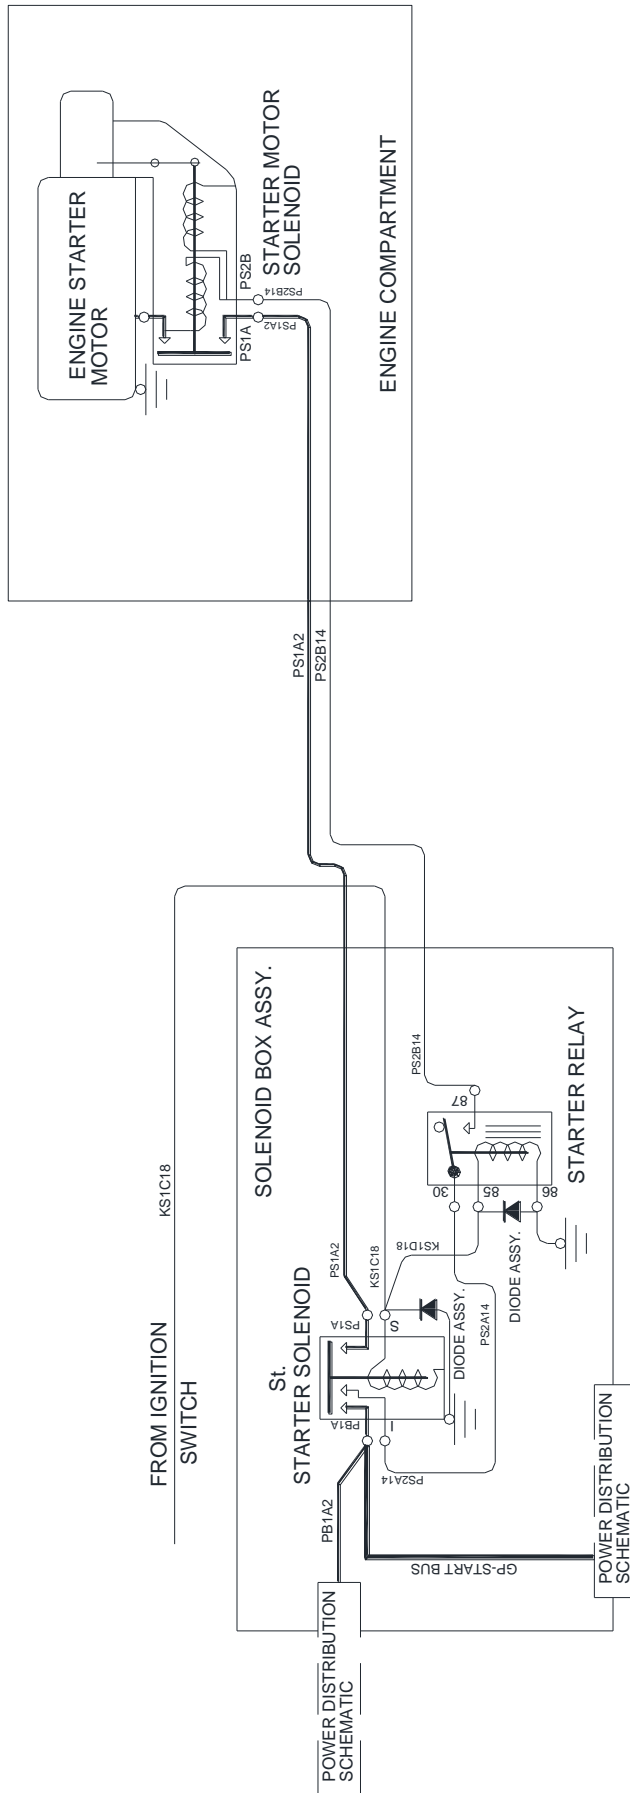
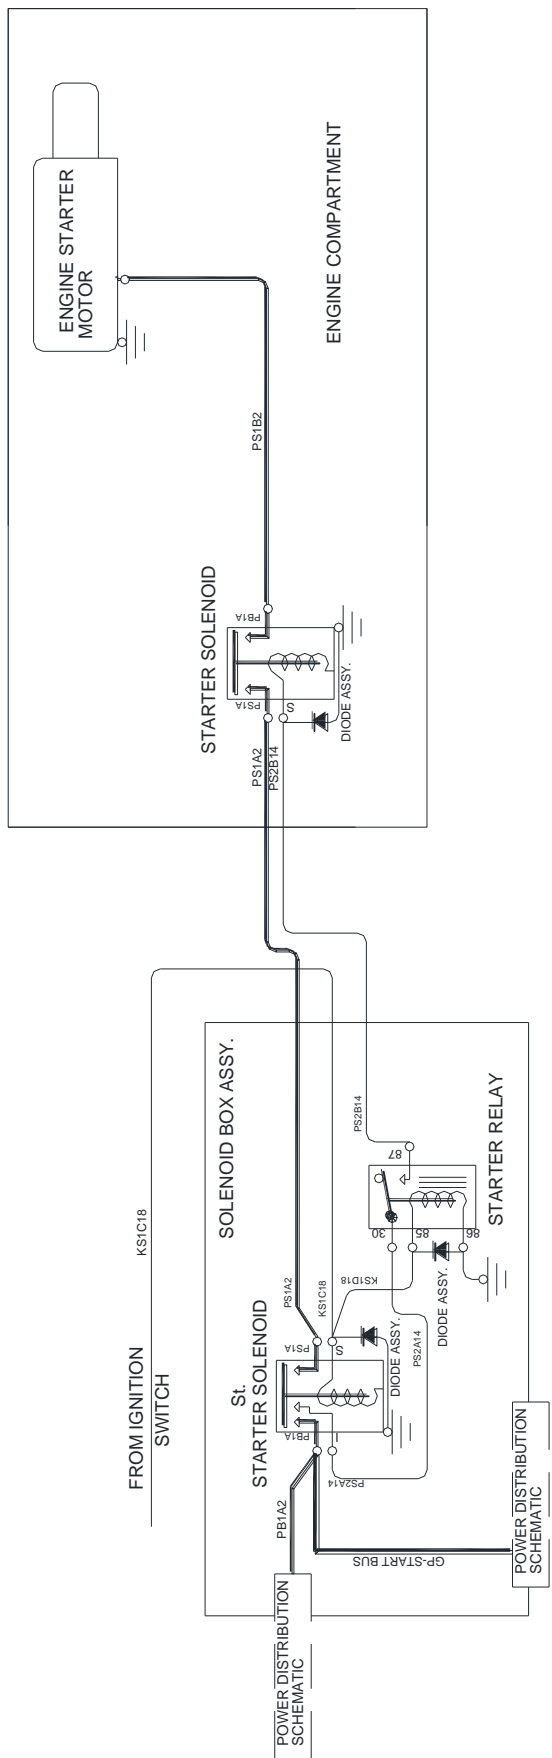

Figure 9: Original Configuration
Figure 10: Modified Configuration
- 12.3.1 An overview of the original and modified wiring diagrams is shown in Figure 9 and Figure 10.
- 12.3.2 Refer to Figure 9, on the engine starter motor (mounted below the engine) locate the terminals PS1A & PS2B. Undo the cables attached to the terminals identified as PS1A2 & PS2B14. Retain hardware for reinstallation. Remove both cables through the existing fire sleeve back to the firewall.